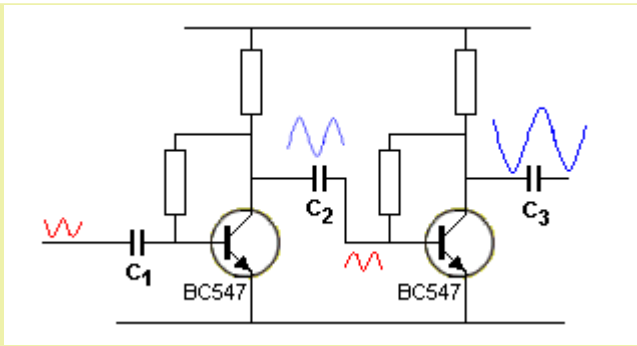

Fig 12.
Fig 12 shows the signal (the voltage waveform) as it passes through 2 stages. Note the loss in amplitude as the signal passes through capacitor C2.
1. **direct coupling** - also called **DC coupling** (not the coupling shown in fig 12. **Fig 12** is AC coupling). DC stands for Direct Current. I know this sounds unusual, but it is the way to explain the circuit will pass (amplify) DC voltages. This type of coupling will pass both AC signals and DC voltages. When the DC voltage moves up and down (even at a slow rate) we call it an AC voltage or AC signal or a rising and falling voltage and when it rises and falls faster, we call it a "signal" or waveform.
Fig 12 shows two stages with a capacitor coupling the output of the first to the input of the second. This is called **Capacitor Coupling** or **Resistor-Capacitor Coupling (RC Coupling)**.